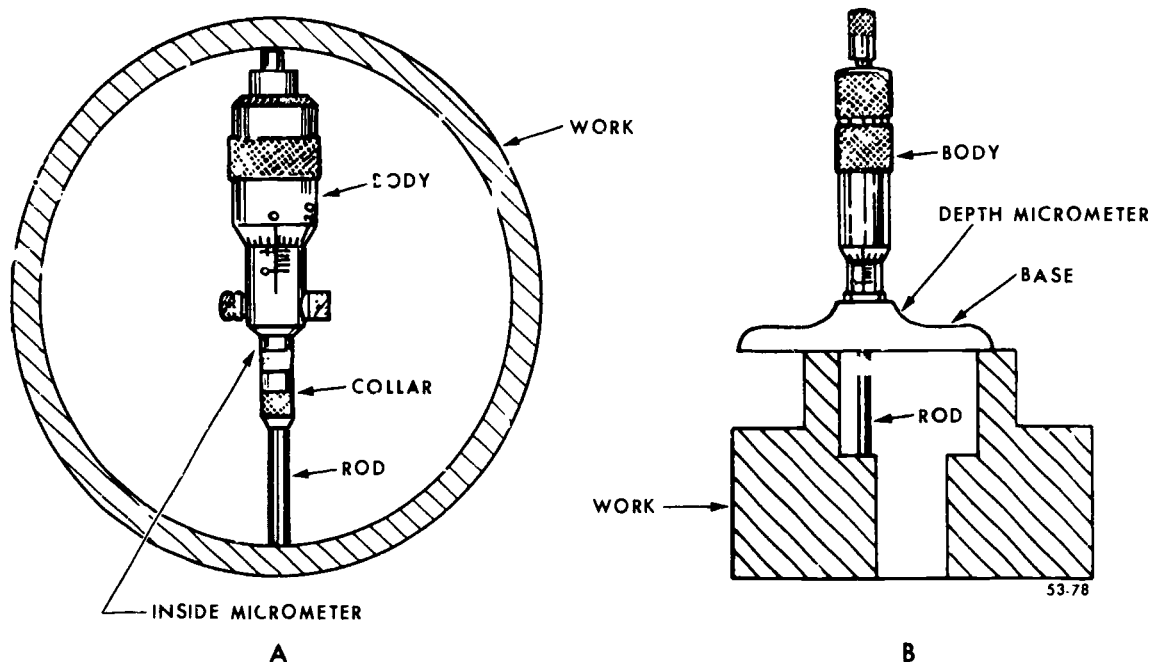

Figure 5-16. Inside and depth micrometers.
**Exercises (034):**
**Depth micrometer.** Depth micrometers are used to measure the depth of holes or the distance from one flat surface to another, as shown in part B in figure 5-16. The range of most depth micrometers is 1 inch. Extension rods allow the measurement of various distances: 1 to 2 inches, 2 to 3 inches, etc. The graduations on a depth micrometer are reverse from those on an outside micrometer. The 0.000 reading on an outside micrometer is
**Inside Micrometer.** The inside micrometer is designed to measure internal dimensions. You use an inside micrometer, as shown in part A in figure 5-16, to measure the inside diameters of pipe, tubing, and holes and distances between surfaces. The measurements obtained